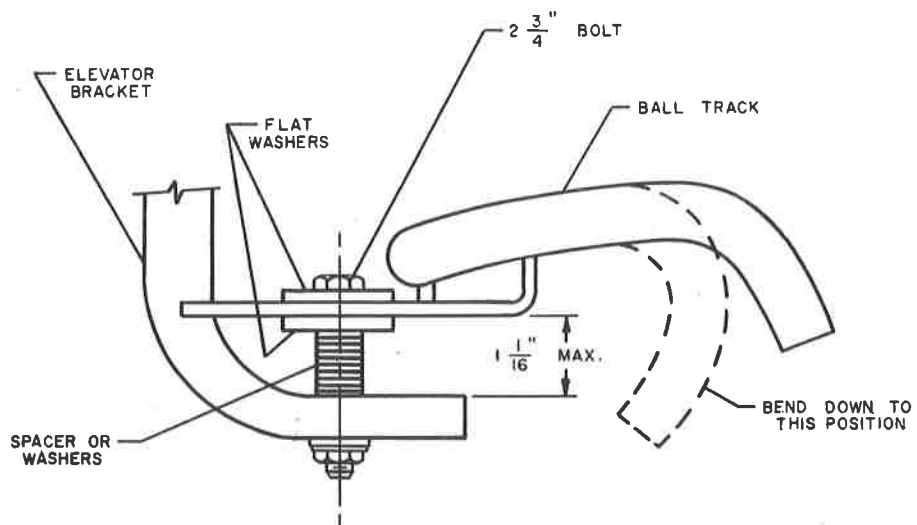

Figure 82. Ball Transfer Adjustment
27. BALL TRANSFER ADJUSTMENT. (FIGURE 82)